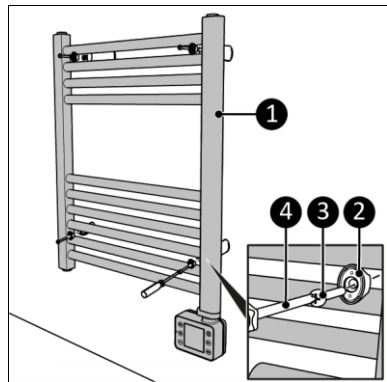

Figure 10
10. Place the device (Figure 10, pos. 1) over the wall brackets.
11. Screw and tighten the device with four large screws (Figure 10, pos. 3) to the wall bracket (Figure 10, pos. 2) using a Phillips screwdriver (Figure 10, pos. 4).